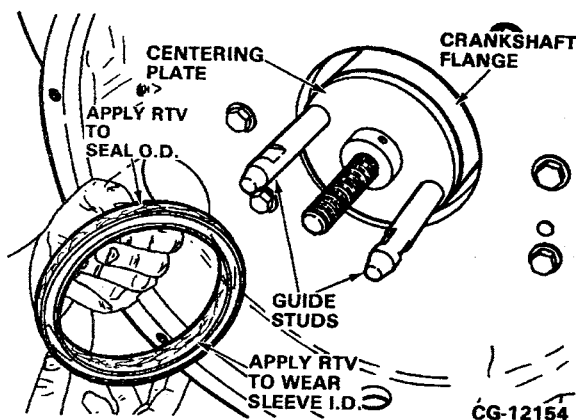

Figure 7.14. Install Centering Plate and apply R.T.V. to Seal and Sleeve
- b. Install the centering plate from ZTSE-4272 to the crankshaft flange using the two studs provided with the installer tool. Refer to Figure 7.14.
- c. Coat the I.D. of wear sleeve and O.D. of oil seal with a thin film of R.T.V. liquid gasket (Dow 732, General Electric 1473 or equivalent). **DO NOT** get any of this liquid on the seal lip or O.D. of the wear sleeve. Refer to Figure 7.14.